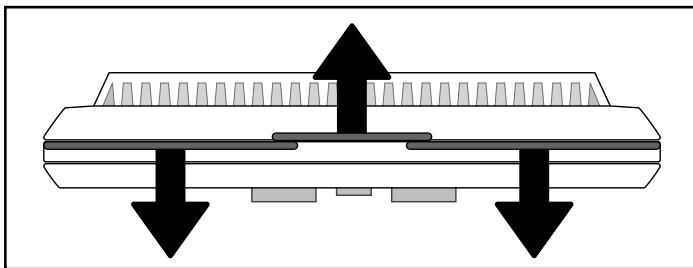

Figure 22.1
1. Separate the body of the thermostat from the mounting plate by gently pulling the two pieces apart (**Figure 22.1**)